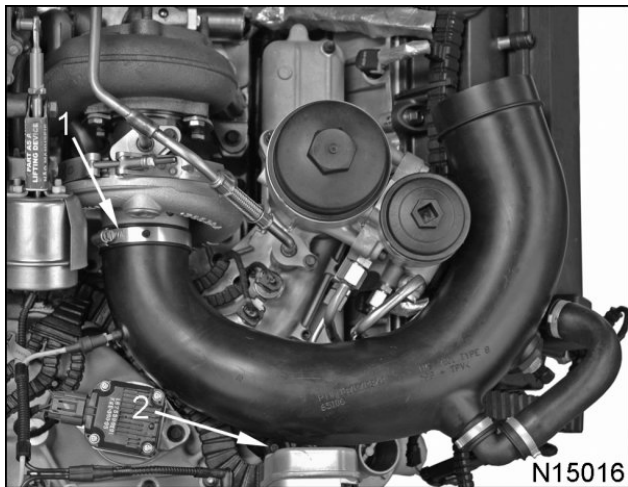

Figure 2 Air Inlet Duct Assembly
5. Remove the M6 x 16 bolt holding the air inlet duct to the intake manifold (Figure 2).